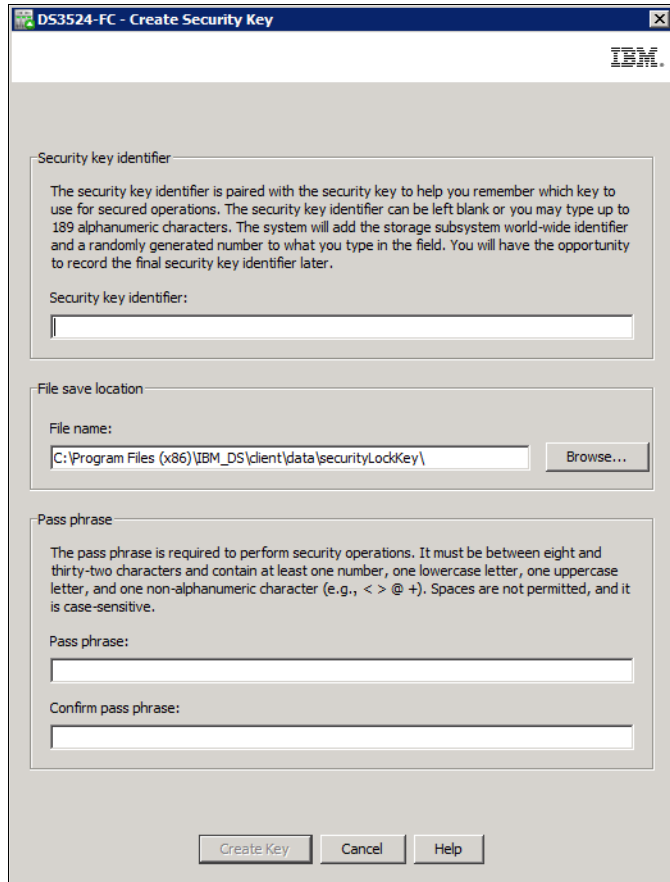

Figure 15-11 Empty form for security key generation
3. Fill in the empty form as shown in Figure 15-11 on page 451